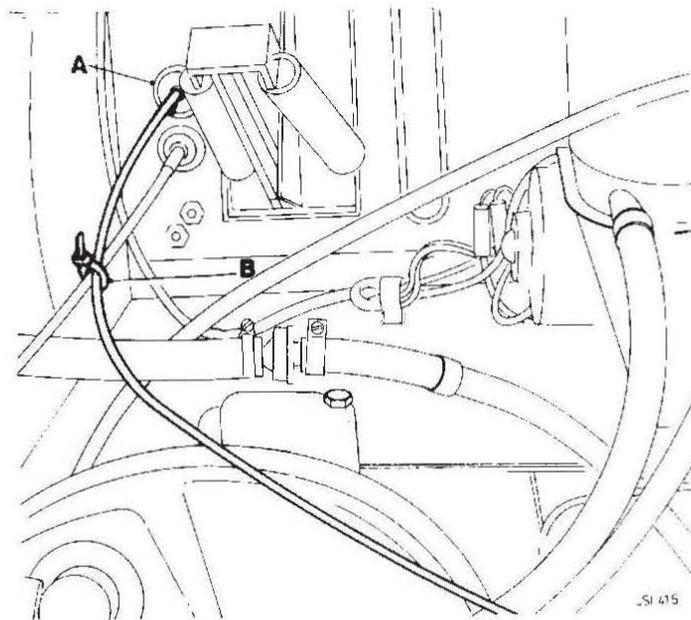

FIG 1
2. Remove the blanking plug from the bulkhead, fitted between the offside bonnet hinge and the inner wing valance (A Fig 1).
2. Fit the grommet (A Fig 1) and position the choke cable assembly through the support bracket. Secure with the nut supplied. Feed the cable through the grommet and using a ratchet strap, secure to the bonnet release cable 20.0 cm (8 ins) from the bulkhead (B Fig 1).